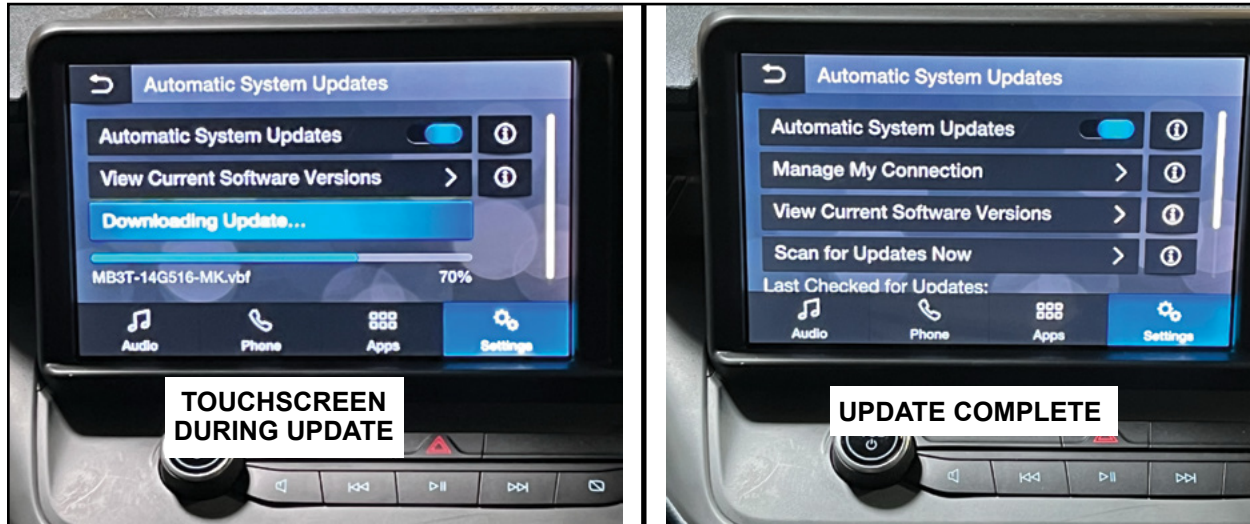

FIGURE 3
9. Leave the USB drive inserted into the vehicle, until the vehicle's touchscreen states **programming successful** or the menu options reappear. See Figure 3.